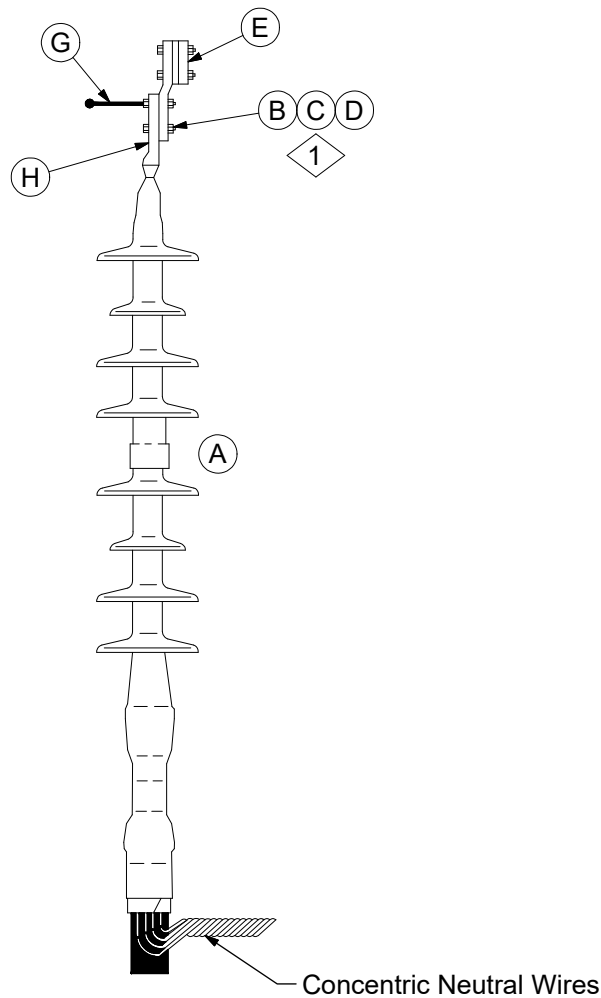

Figure 6
9. For 1/0 - 750 kcmil outdoor installations, attach a bronze four bolt lug to the compression lug or shearhead bolt lug using a ground stud in the upper hole and a 1/2" x 2" bolt in the lower hole. See Figure 6.